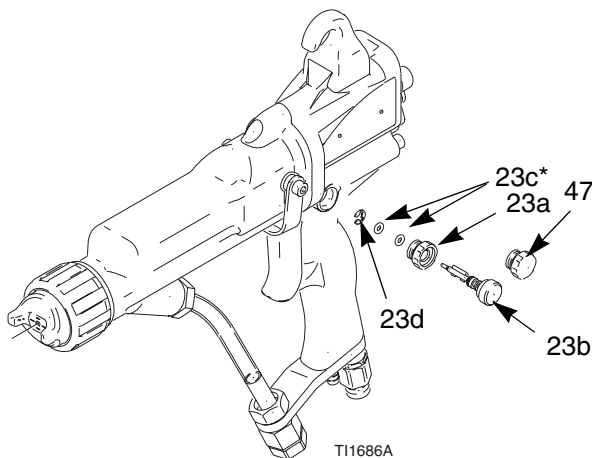

Fig. 34. Atomizing Air Restrictor Valve
2. Remove the atomizing air restrictor valve (23). Inspect the o-ring (23c*). Replace if necessary. See FIG. 34..
3. Install a new atomizing air restrictor valve (23), or disassemble and replace parts individually. The valve protrusion must be oriented to clear the air valve (21) shaft.